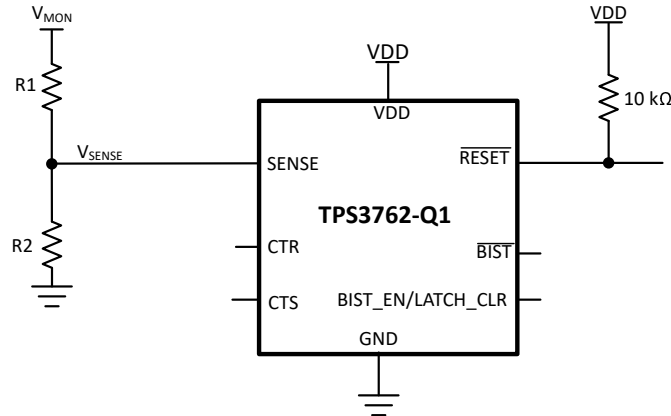

Figure 8-1. Adjustable Voltage Threshold With External Resistor Dividers
Figure 8-1 illustrates an example of how to adjust the voltage threshold with external resistor dividers. The resistors can be calculated depending on the desired voltage threshold and device part number. TI recommends using the adjustable (0.8V voltage threshold device) when setting adjustable voltage thresholds. This variant bypasses the internal resistor ladder.
For example, consider a 12V rail, V_{MON} , being monitored for overvoltage (OV) using of the TPS3762D02OVDDFRQ1 variant, as shown in Figure 8-1. The monitored OV threshold, denoted as V_{MON+} , is the desired voltage where the device asserts the reset. For this example $V_{MON+} = 35V$. To assert an overvoltage reset the voltage at the sense pin, V_{SENSE} , needs to be equal to the input threshold positive, V_{ITP} . For this example variant $V_{SENSE} = V_{ITP} = 0.8V$. Using R_1 and R_2 the correlation between V_{MON+} and V_{SENSE} can be seen in Equation 8. Assuming $R_2 = 10k\Omega$, and R_1 can be calculated as $R_1 = 427.5k\Omega$.